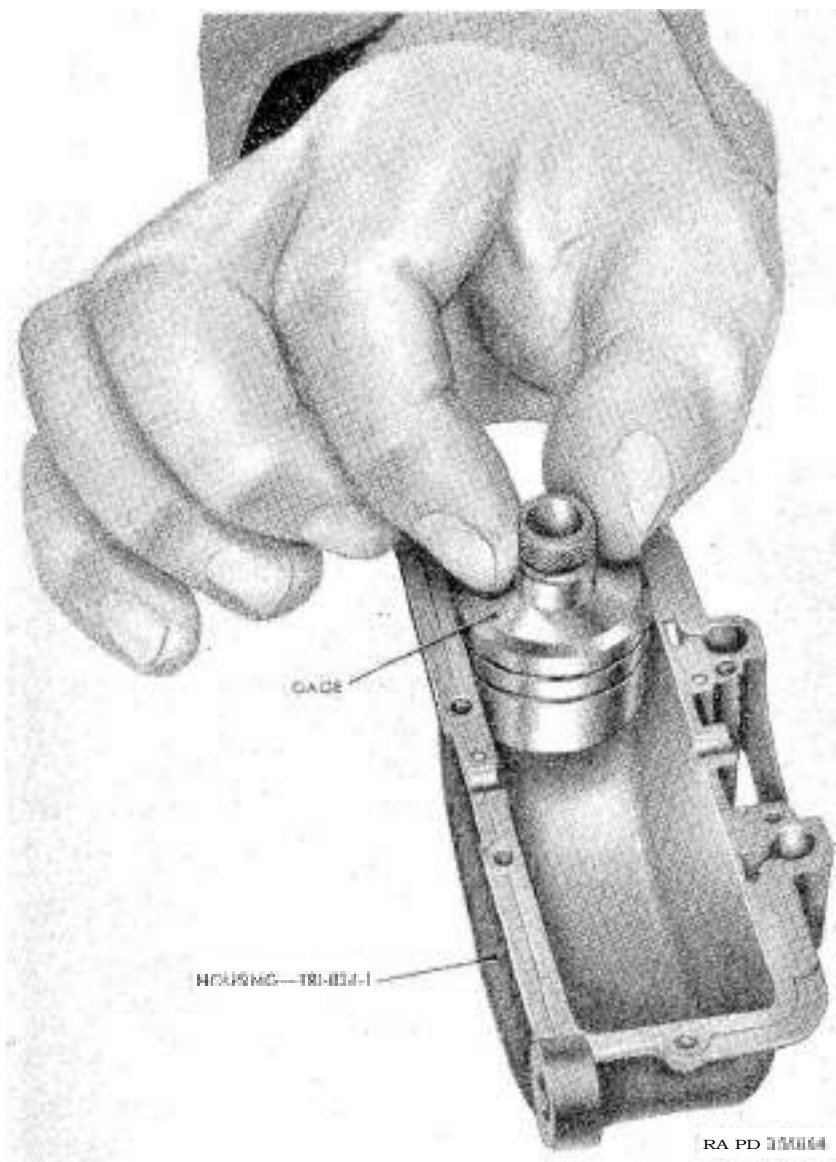

Figure 191. Checking housing with "go—no go" gage from kit — 41—K-280.
- (1) Inspect housing (GG) with "go—no go" gage (fig. 191) from kit 41-K-280. If upper "no go" portion of gage (top land) can be inserted in housing, windshield wiper motor assembly must be replaced,
- (2) inspect threads in housing for wear or damage, gasket surface for imperfections, or cracks in housing. if any of these conditions exist, wiper motor assembly must be replaced.